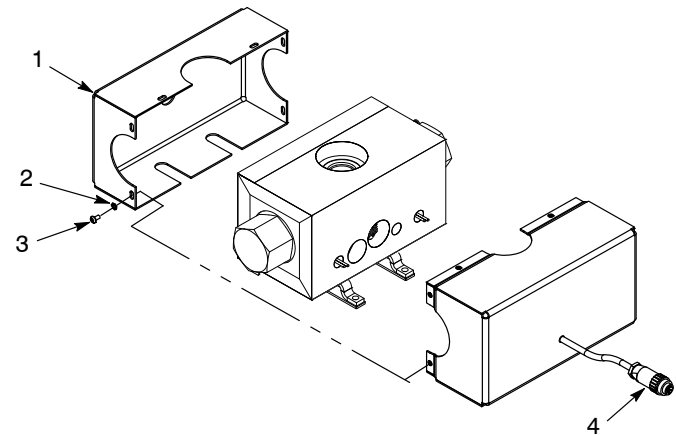

Figure 3 Manifold Enclosure
1. See Figure 3. If installed, disconnect the material hose from the manifold.
2. Disconnect the cordset (4) from the power source.
3. Remove the screws (3) and lock washers (2) securing the manifold enclosure (1). Make the necessary repairs.
4. After repairs are made, install the manifold enclosure (1) using the lock washers (2) and screws (3). Tighten the screws securely.
5. Connect the cordset (4) to the power source.